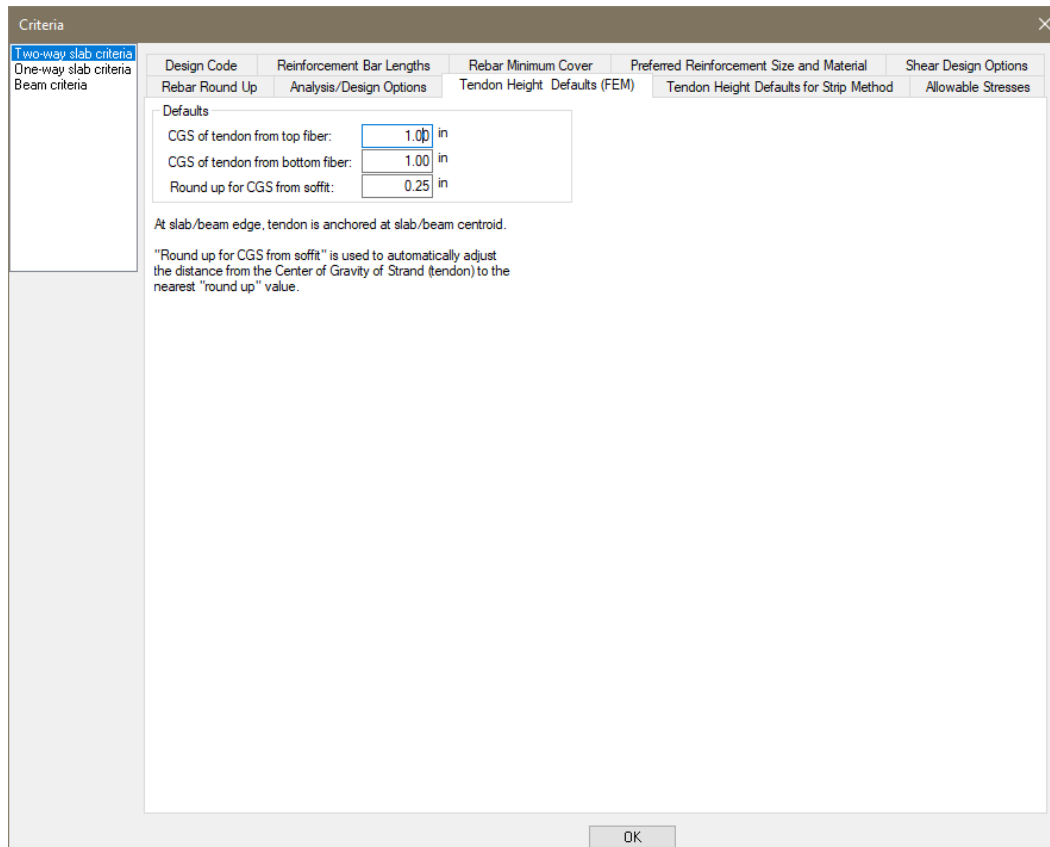

Figure 2-19
- Click on the *Tendon Height Defaults (FEM)* tab. This will open the window from **FIGURE 2-19**.